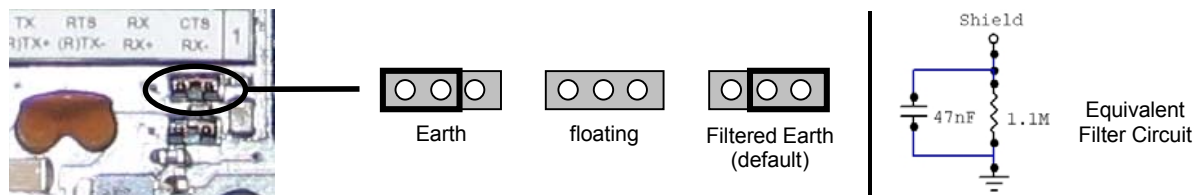

Figure 7—Shield to Protection Earth Jumper Settings
- Connect the Network Cable Shield (Shield) to Filtered Earth through the jumper (default setting, see Figure 7).